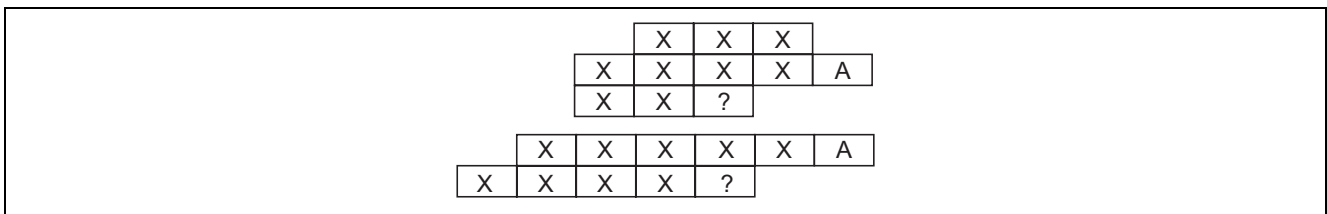

Figure 1 Template (X, A) (Top: 3-line, Bottom: 2-line)
- 2 or 3 line 10 pixel template (see figure 1)